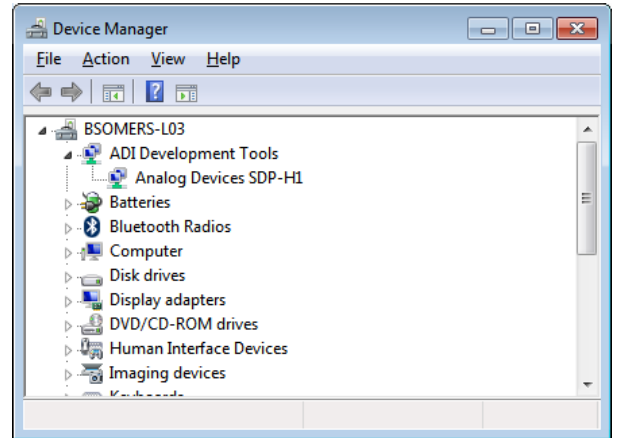

Figure 10. Device Manager Window
2. Navigate to the **Device Manager** window on the PC (see Figure 10).
4. The **Computer Management** window opens. In the list labeled **System Tools**, click **Device Manager**. If the SDP-H1 driver is installed and the board is properly connected to the PC, **Analog Devices SDP-H1** is shown in the **ADI Development Tools** list in the **Device Manager** window, as shown in Figure 10.